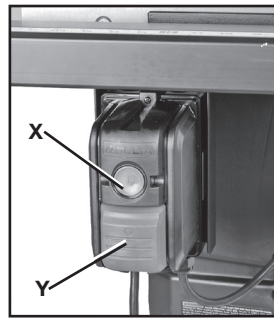

FIG. 19
1. The **POWER** switch (X) Fig. 19 is located underneath the front left extension wing. To turn the saw "ON", push the round button (X) Fig. 19.
2. To turn the saw "OFF", push the button (Y) Fig. 19.